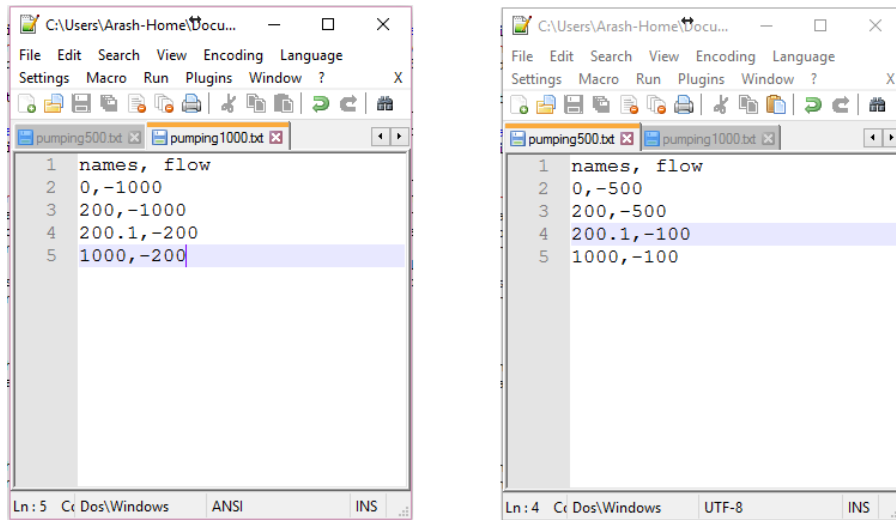

Figure 6: Revised pumping time-series files
- Make a copy of the pumping files and modify them as shown in figure 6. Save the newly created pumping files with a new names.